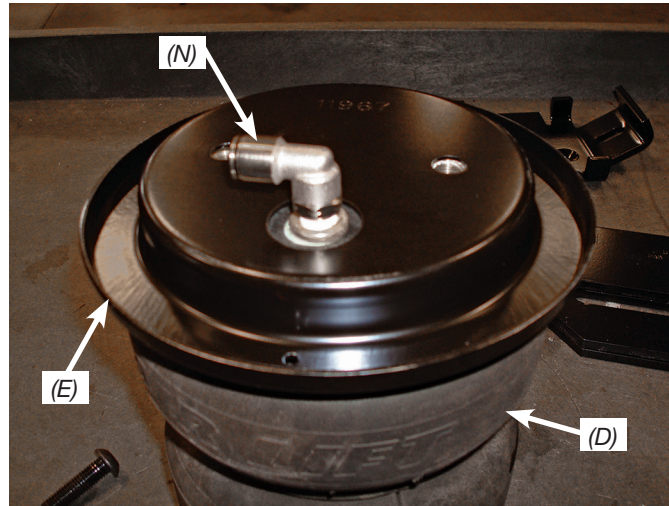

fig. 7
2. Install the swivel fitting (N) into the top of the air spring finger tight plus one and a half turns (fig. 7).